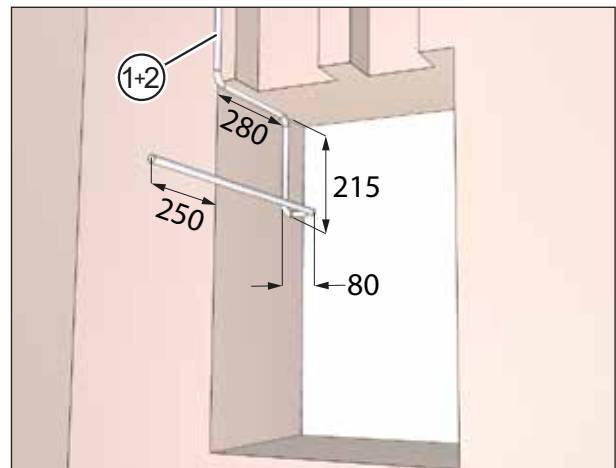

Fig. 19: Running the connecting cables, dimensions in millimetres
- ▶ Run the mains cable (item 1 in Fig. 19) and the control cable, if required (item 2 in Fig. 19). The cables should extend roughly 250 mm beyond the wall.